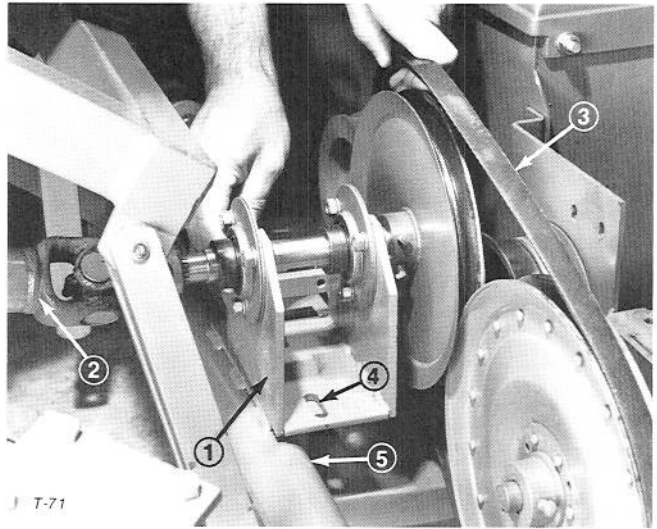

Figure 11
5. Align mounting screw holes with hitch adapter holes, install V belt and secure jackshaft support to hitch adapter with carriage bolts and flange nuts (Fig. 11). Assure belt pulleys are aligned and belt is tensioned so there is 1/8 inch deflection midway between the pulleys when 5-6 lb. force is applied to the belt (Fig. 11).
6. Slide PTO shaft onto jackshaft and install roll pin into PTO and jackshaft (Fig. 11).